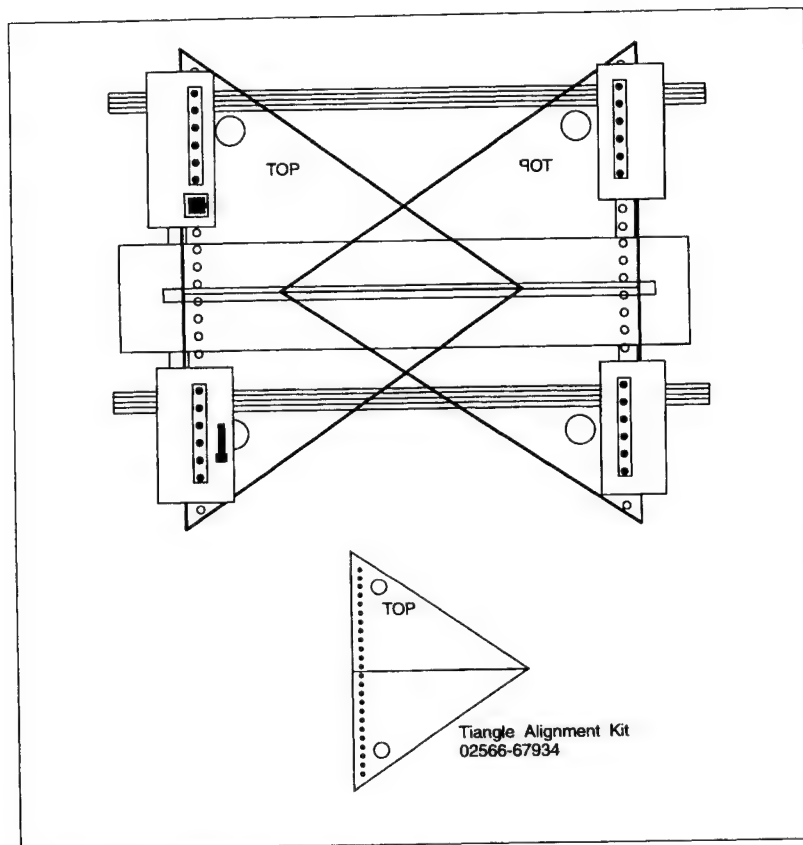

Figure 5-9. Installing the Triangle Tools
- d. Place a Mylar Triangle Tool (with "TOP" up) in the left set of tractors (see Figure 5-9) and the other triangle (with "TOP" up) in the right set of tractors.
- a. Insert the mylar triangle tools into both sets of tractors (see Figure 5-9).